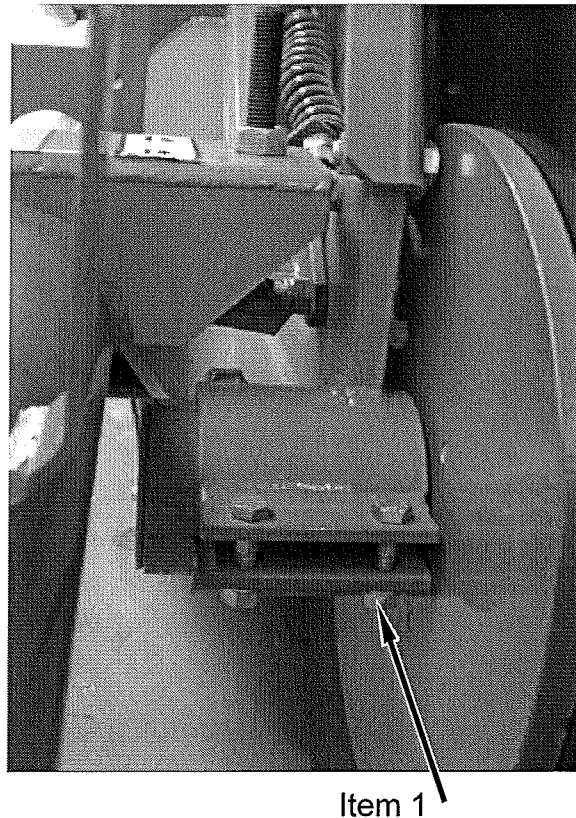

Fig 6.6
To adjust the discs, slacken clamp bolts (fig 6.6 item 1) on the disc hub mounting and slide the disc hub in or out to the required position. Retighten clamp bolts.